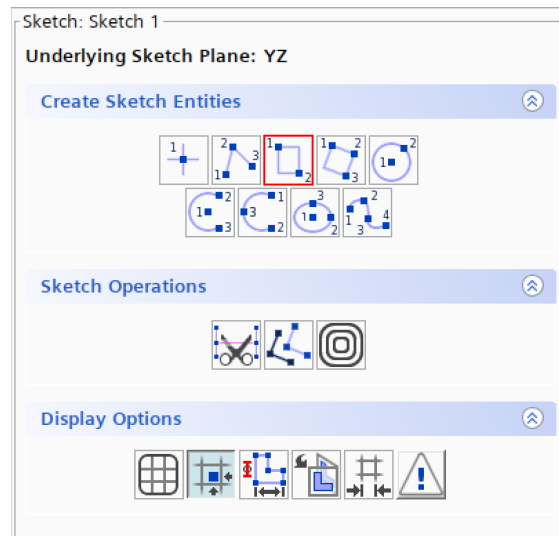

Figure 7: Rectangle sketch tool.
- Click on the Rectangle icon in the Create Sketch Entities section, shown in Figure 7.